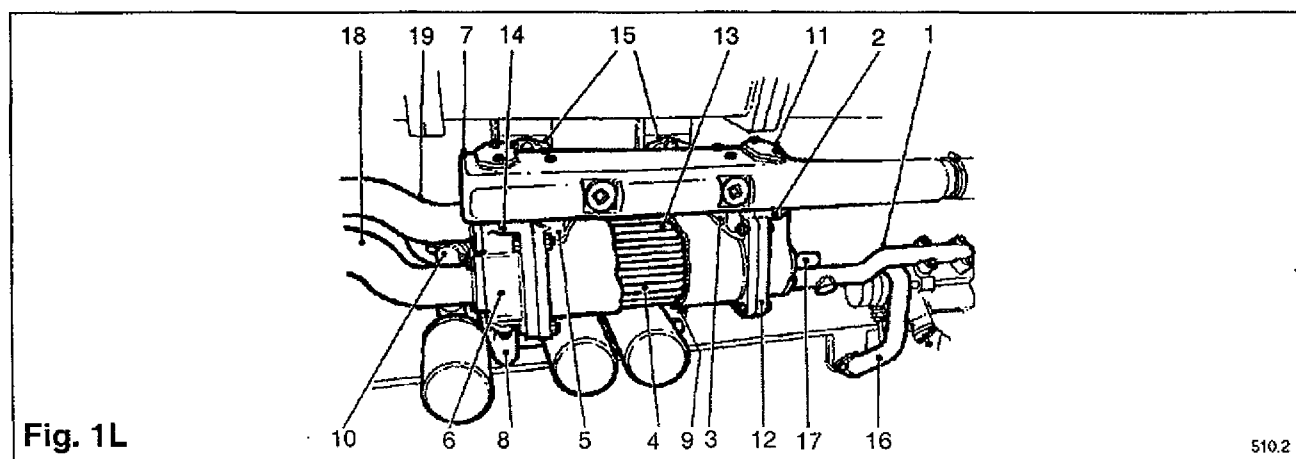

Fig. 1L
The oil cooler comprises a tube stack enclosed within a cast aluminium body and sealed by ported end covers with 'O' rings. The covers are dowelled and bolted (see **Fig. 1L**) to the body.
Coolant delivered from the water pump, passes from the front end of the coolant/oil transfer pipe to ports (11) in the cover (12), and passing through the tubes (13) to the cover (6) exits from ports into the rear end of the coolant/oil transfer pipe, and thence via the inlet pipes (15) into the water jackets. The arrangement of the oil cooler, filters and header for 'B' bank is the same as for 'A' bank (see **Fig. 1L**).